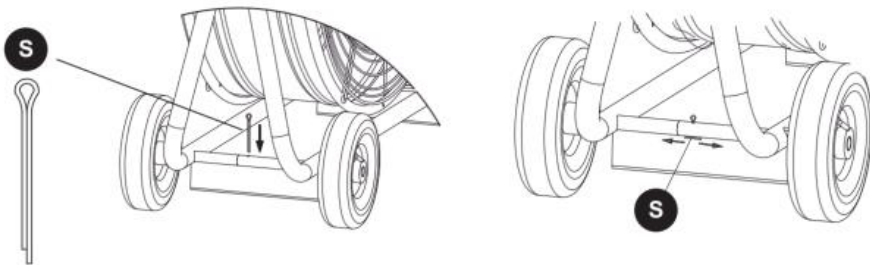

Fig. 2
2. Secure the wheels (B) by inserting a split pin (S) into the hole on the wheel shaft and splitting the pin (Fig. 2)